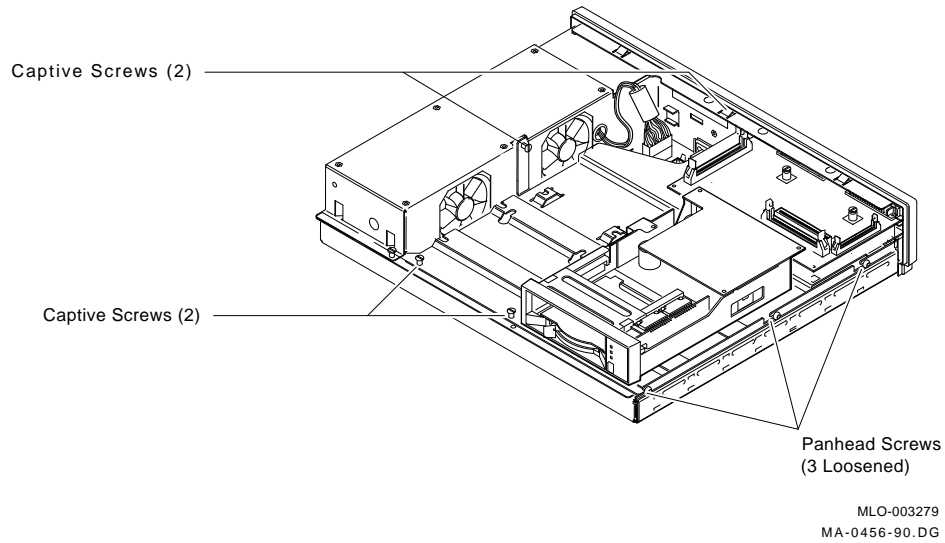

Figure 1-5 Drive Mounting Shelf Removal
5. On the drive mounting shelf, loosen the four captive screws on the top, and the three panhead screws located on the right-hand side of the shelf (Figure 1-5).